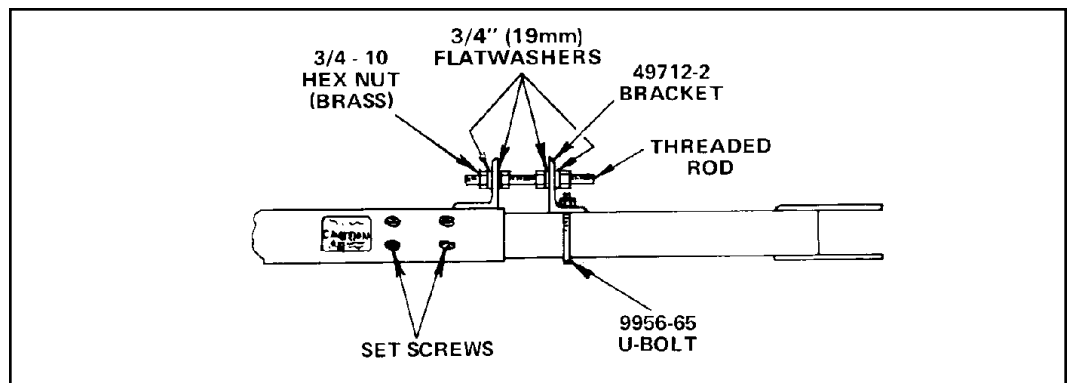

Figure 77
Step 9 Attach fine adjustment assembly between adjacent azimuth strut sections as shown in Figure 77 using appropriate brackets, U-bolts, brass hex nuts, flatwashers and threaded rod. Securely tighten all adjustment assembly hardware. **Note:** Fine adjustment assembly on azimuth strut should be positioned away from ground mount angles.